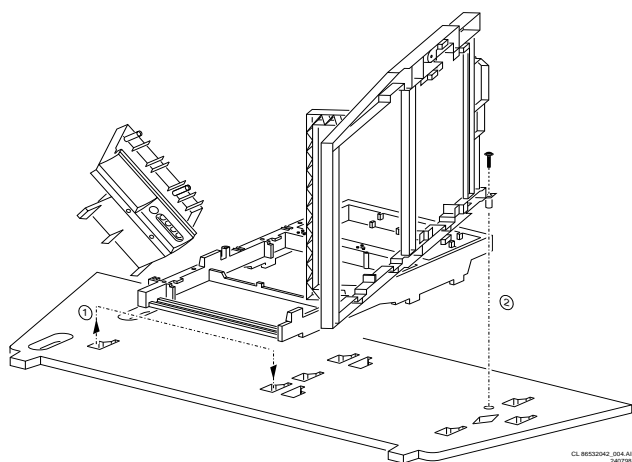

Figure 4-5
5. Turn the LSP 90 degrees anti clock wise and place the LSP in the hole of the bottom tray. If needed a screw can reinforce the stability of this position (see figure 4.5) (see (2)).
6. The left front hook of the SSP panel can be fixed in a fixation-hole, that was used in previous service-position for the right front hook of the SSP. See described movement-action (1). (There is no right fixation hole.)